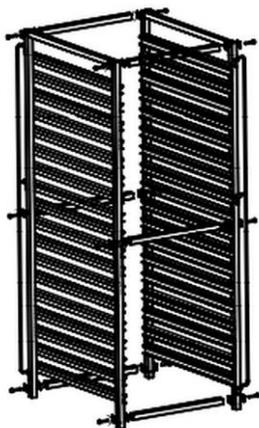

Fig. 1
7. Mount 6 crossbars on the second lateral section, using washers and bolts, as described above. (Fig. 1)